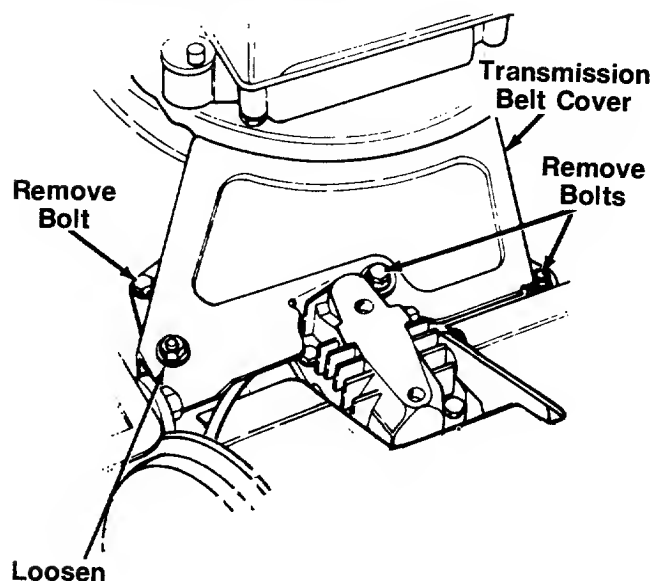

FIGURE 20.
3. Remove the transmission belt cover by removing three bolts. See figure 20.